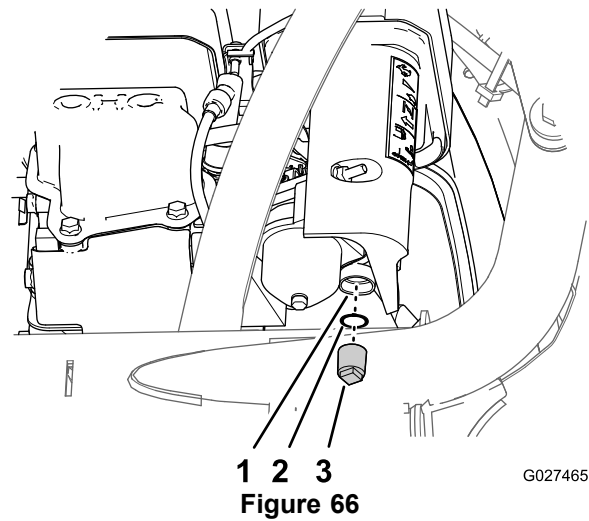

Figure 66
2. Align a drain pan under the body of the fuel shutoff valve for the carburetor (Figure 66).
3. Rotate the sediment cup counterclockwise and remove the cup from the carburetor (Figure 66).
5. Thread the sediment cup into the body of the fuel shutoff valve hand tight (Figure 66).